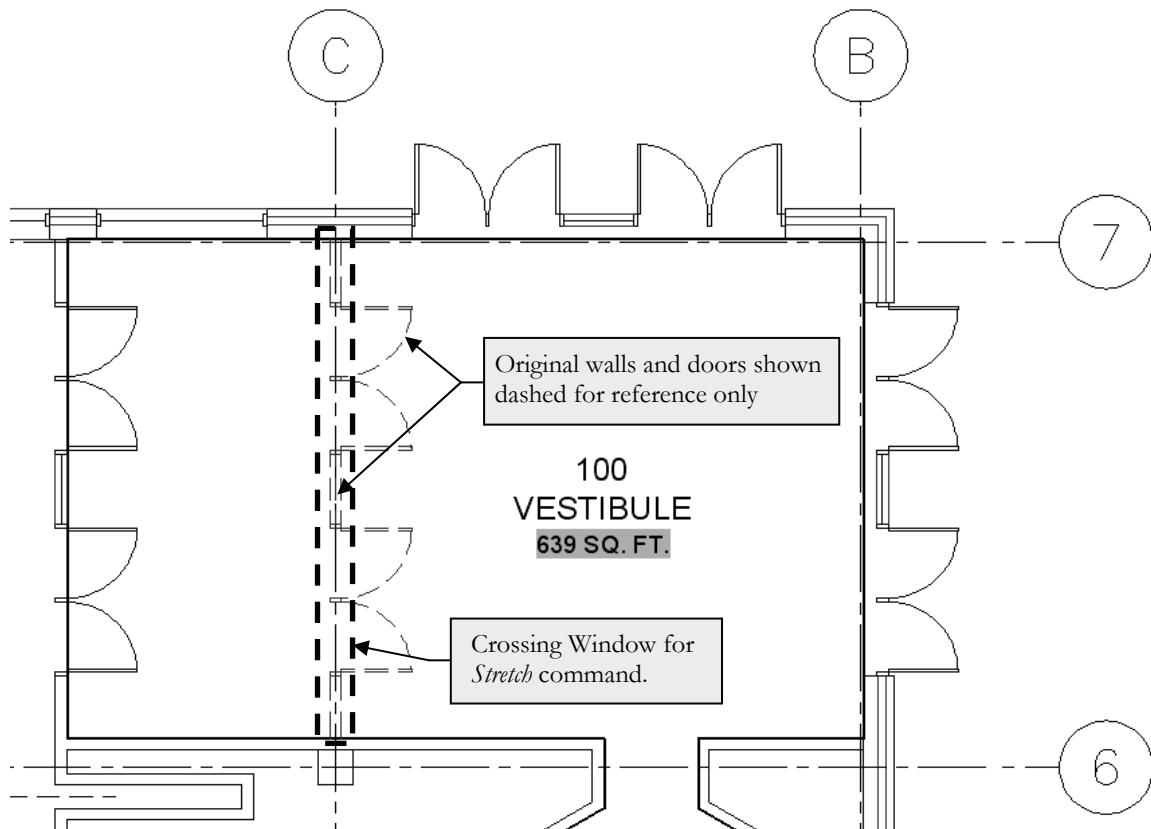

FIGURE 4-4.8 Stretching the vestibule wall
- c. Pick a **Crossing Window** (picking from right to left) as shown in Figure 4-4.8, being careful not to include the C/6 column's insertion point within the *Crossing Window*.